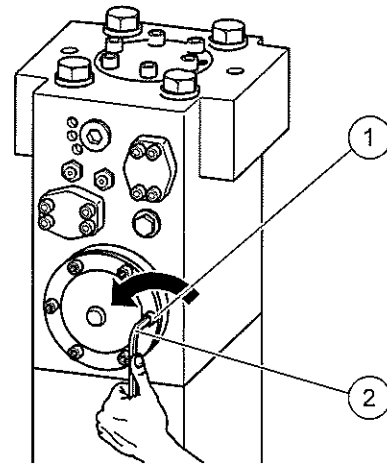

Fig. 13
- Release allen screws (Fig.13/1) on accumulator using a size 14 allen key (Fig.13/2) and screw them out removing the locking washers at the same time.